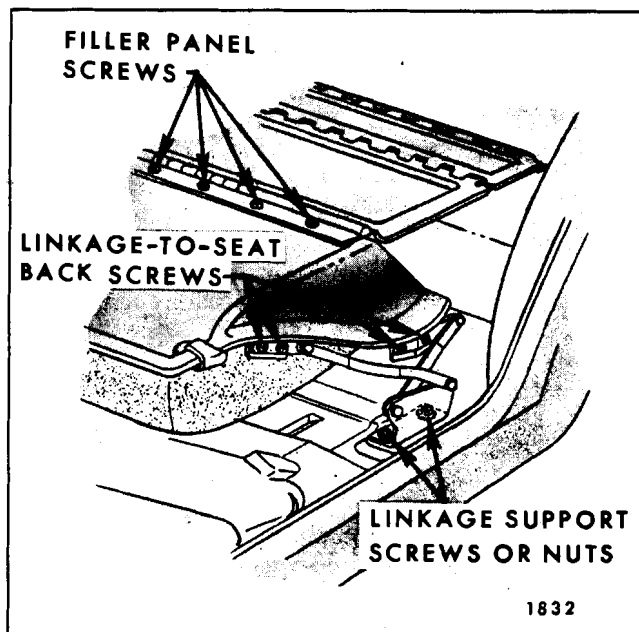
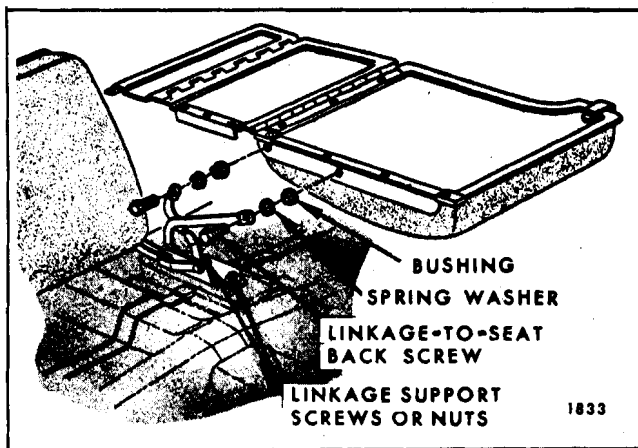

Fig. 14-70-Folding Second Seat Back Linkage and Filler Panel - "A" Body Two-Seat and Three-Seat Styles
Fig. 14-71-Split Second Seat Inner Linkage - "A" Body Styles
3. Mark position of folding second seat back linkage supports on floor pan. Remove nuts from both sides of seat back securing linkage supports to floor pan. See Figure 14-70 for full width seat, Figure 14-71 for split seat.
4. To remove linkage from folding second seat back remove linkage-to-seat back panel attaching bolts and remove linkage - see Figure 14-70 for full width seat, Figure 14-71 for split seat.
2. Move folding second seat back forward just sufficiently to remove two lower linkage-to-seat back panel attaching screws (see Fig. 14-70).
4. Remove two upper linkage-to-seat back panel attaching screws (see Fig. 14-70).
5. Remove nuts securing linkage support to floor pan, then, carefully remove linkage assembly from seat back and floor pan (see Fig. 14-70).